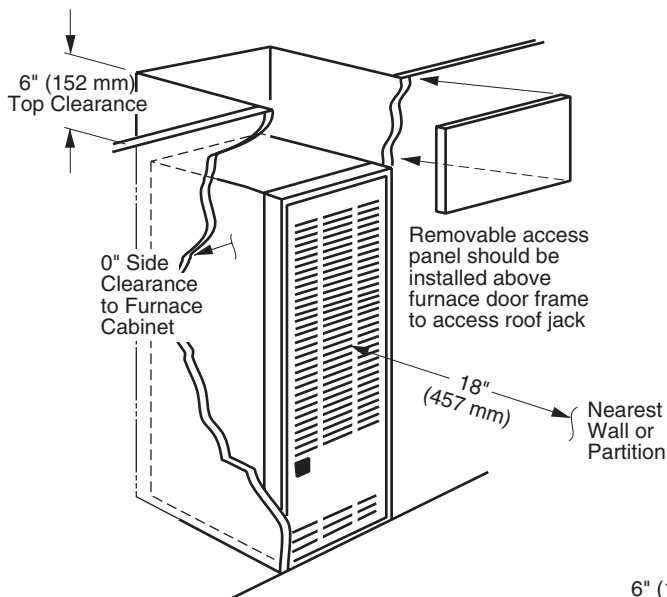
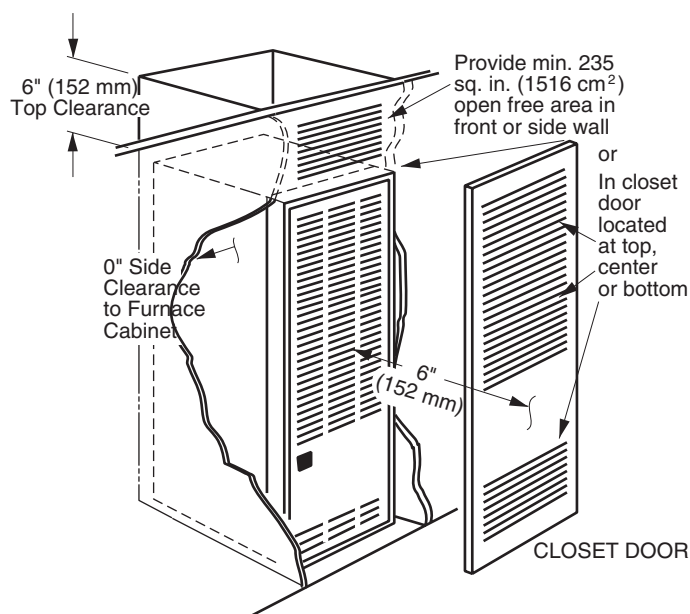
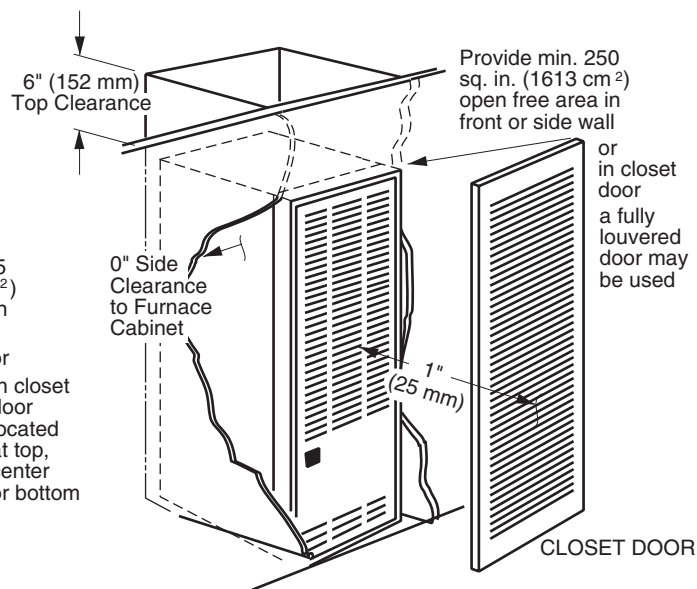

Figure 1. Alcove Installation
Figure 2. Closet Installation
Figure 3. Special 1" Clearance
This heating appliance must be installed with clearances not less than the minimums listed in Table 1. This furnace must be installed with ample clearance for easy access to the air filter, blower assembly, burner assembly, controls, and vent connections. See Figure 1, Figure 2, and Figure 3.
- The dimensions of the room or alcove must be able to accommodate the overall size of the furnace and the installation clearances listed in Table 1 and Figure 1.